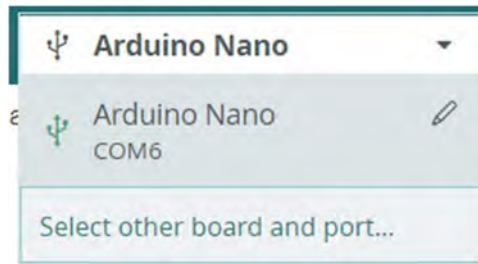
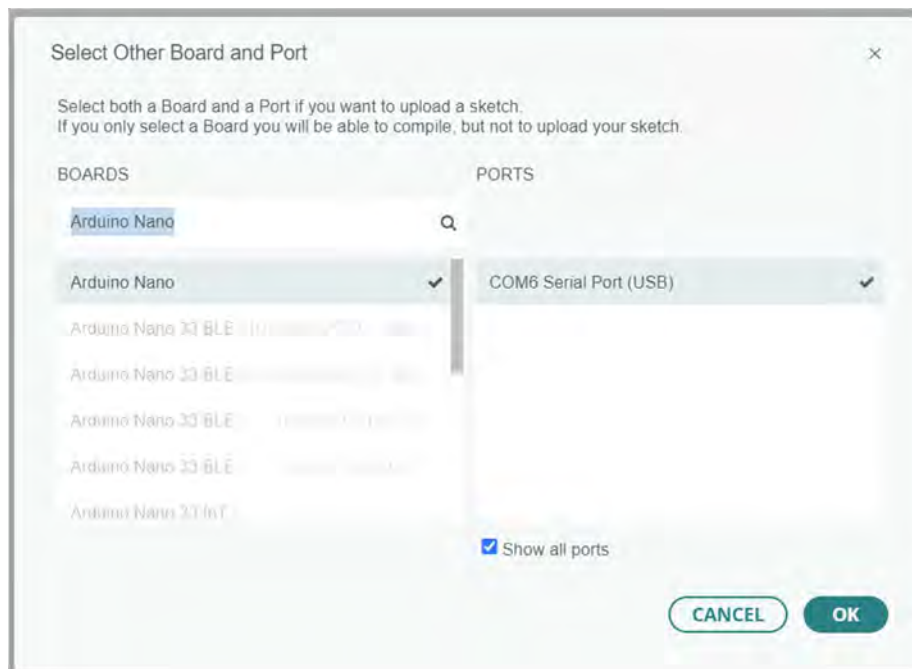
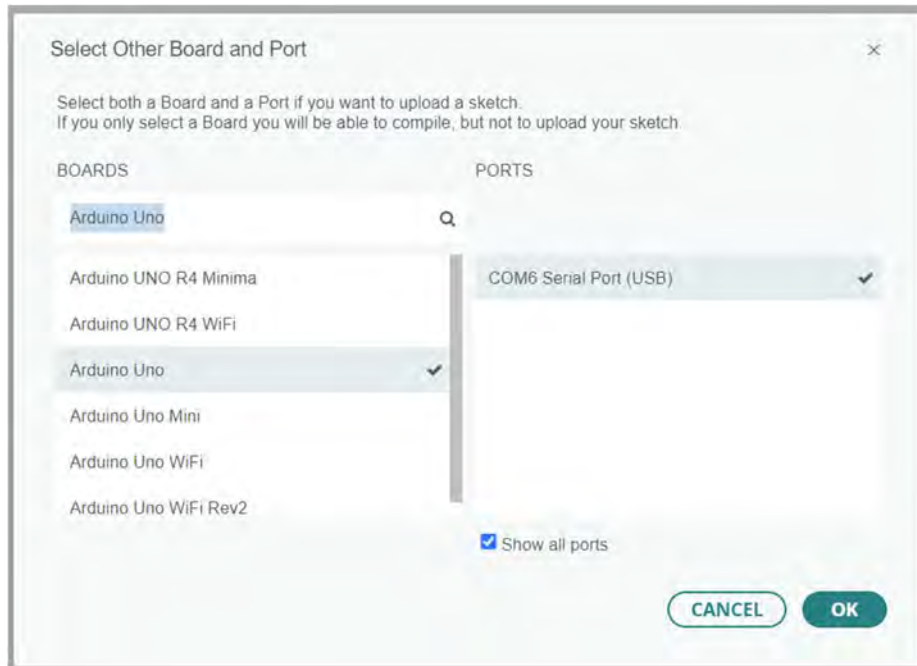

Figure 12: Select other board and port...
Figure 13: "Arduino Nano" board selection for the Nano Flip.
Figure 19: Incorrect board selection.
- **Board selection:** In the “Select other board and port...” option (Figure 12), in the “BOARDS” search, type and then select “Arduino Nano”, as shown in Figure 13. **NOTE:** this selection can also be done under the “Tools” and “Board:” option.
Solution: One possible cause of this error message is incorrect board selection. As an example, in Figure 19 the “Arduino Uno” board was selected, which will not work with the *Nano Flip*. The solution to this is to select the correct board, which is “Arduino Nano” as shown in Figure 13.